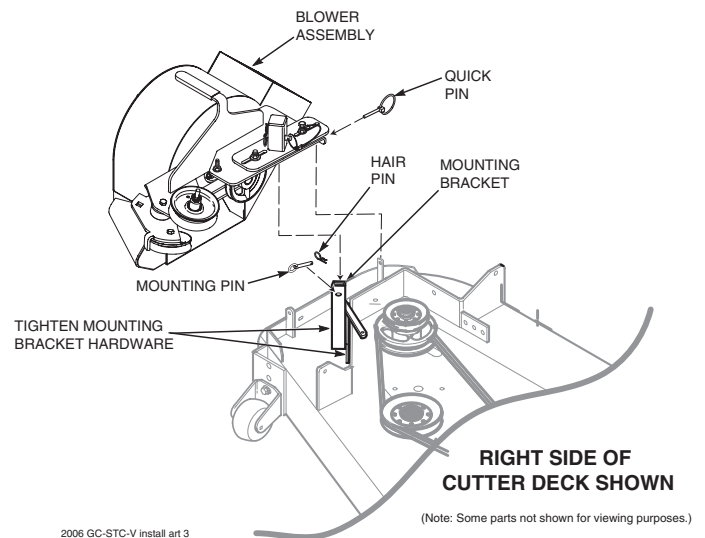

Figure 2-6. Blower Installation
12. Install the blower assembly to the mounting bracket and secure with the mounting pin. See Figure 2-6.
13. Align the blower assembly with the discharge opening of the cutter deck. Tighten the hardware for the mounting bracket. See Figure 2-6.
14. Install the quick pin through the rear hole in the discharge chute mounting bracket. See Figure 2-6.